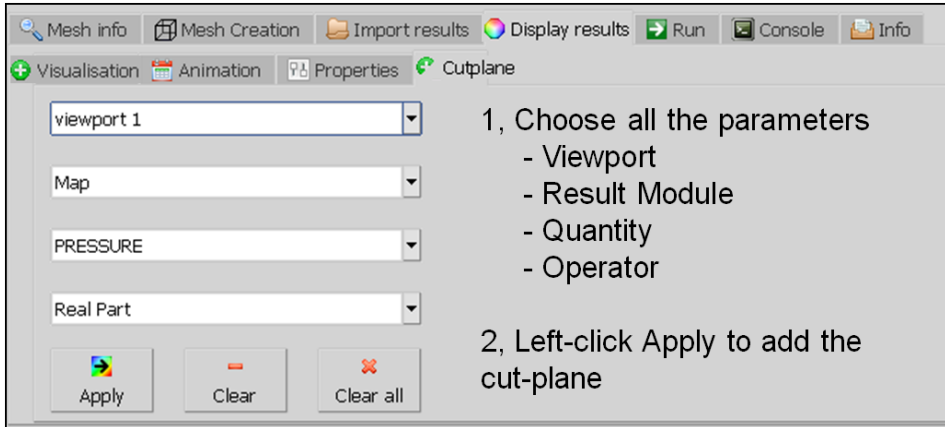

Figure 6.54: Create a cut-plane on the map result
- Add a cut-plane in the Cutplane tab (Figure 6.54).